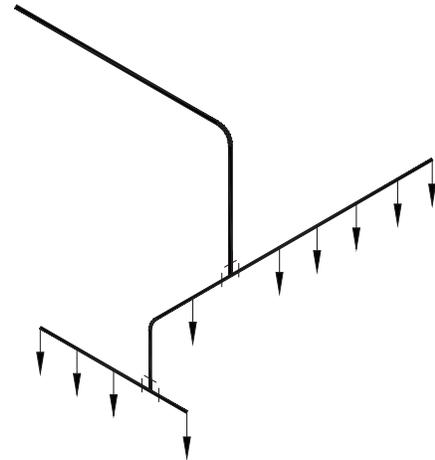

FIGURE 4-18
- ▶ 4. A bull tee can be used at the end of a hose/tube run to connect to one, two, or more nozzles installed from either tee outlet with other nozzles installed prior to the tee. This may be done as long as the total nozzle limitations are not exceeded. See Figure 4-18.